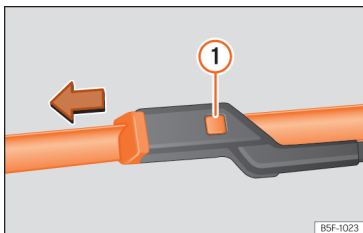

Fig. 190 Changing the windscreen wiper blades
- Press and hold release button >>> **Fig. 190** ① and pull gently on the wiper blade in the direction of the arrow.